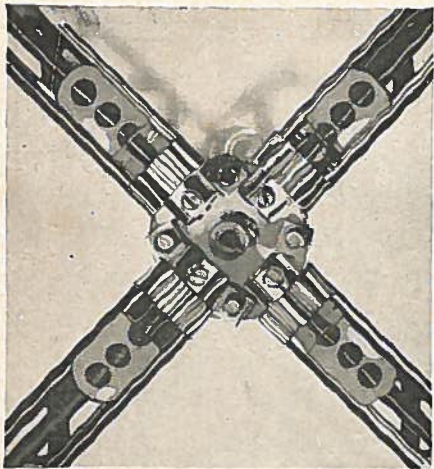

FIGURE 4
The detail of the driving mechanism is shown in Figure 4 and 5. Two (OG) 21 hole strip formed are fastened between two (BT) pierced discs. These (OG) serve as bearings for $7\frac{1}{2}$ " axles to which are fastened P13B 12 tooth pinion gears. These gears revolve around the stationary crown gear and cause the horses to move up and down.